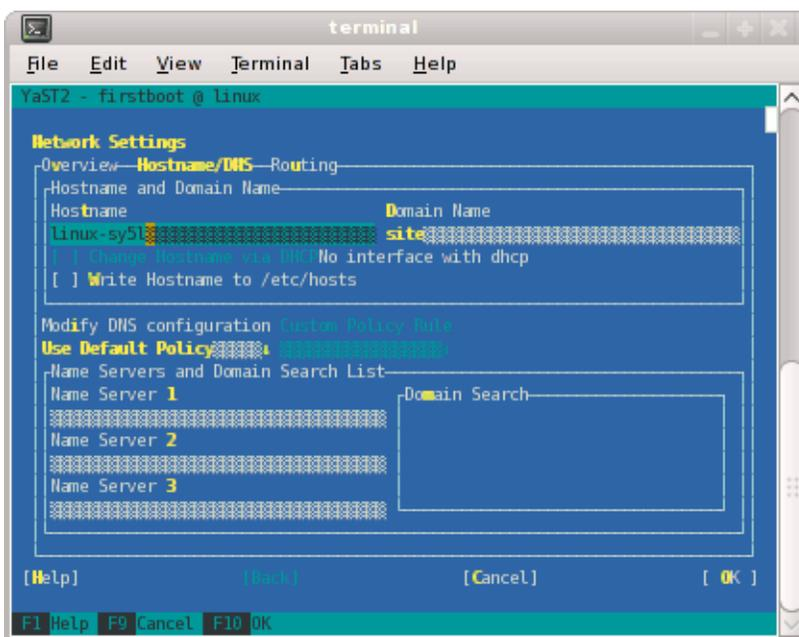

Figure 1-14 Network Settings Screen
9. At this point, you are back at the **Network Settings** screen as shown in Figure 1-14 on page 21. At this time, select **Hostname/DNS**. In this screen, you should enter your house/public network hostname and fully qualified domain names. In addition, any name servers for your house/public network should be supplied. Please select (ensure an x is in the box) for **Write hostname to /etc/hosts**. Do **not** select **OK** yet.